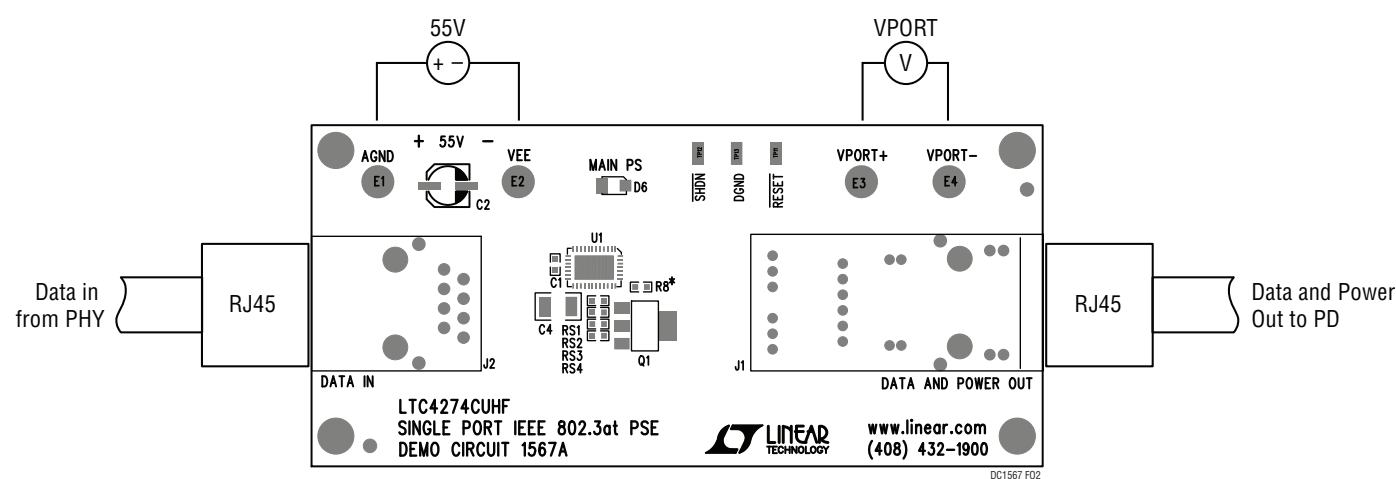

Figure 2. DC1567A Setup
1. Connect a 55V power supply across GND and V_{EE} as shown in Figure 2.
IEEE 802.3at requires that a Type 2 PSE output at the port between 50V to 57V. To meet this requirement, it is recommended to supply a nominal 55V across AGND and V_{EE} on the DC1567A as shown in Figure 2. Main PS LED indicates the input power supply is powering the LTC4274.